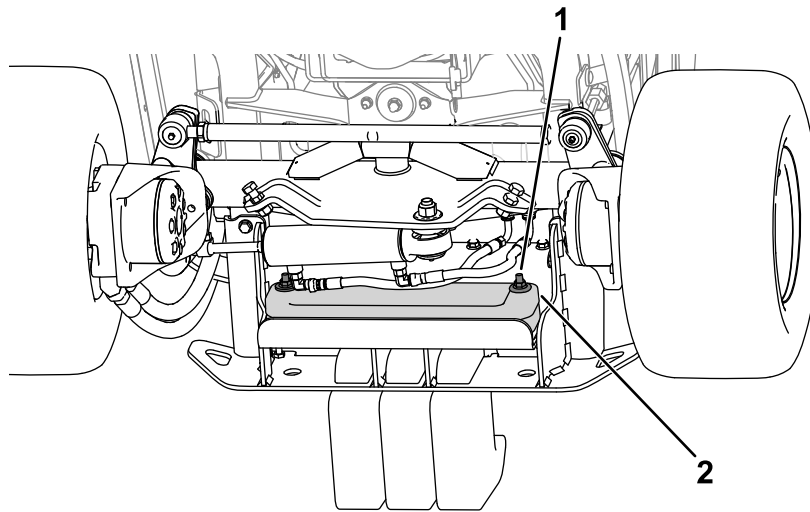

Figure 20
2. Use the hardware to secure the weights to the bumper (Figure 20).